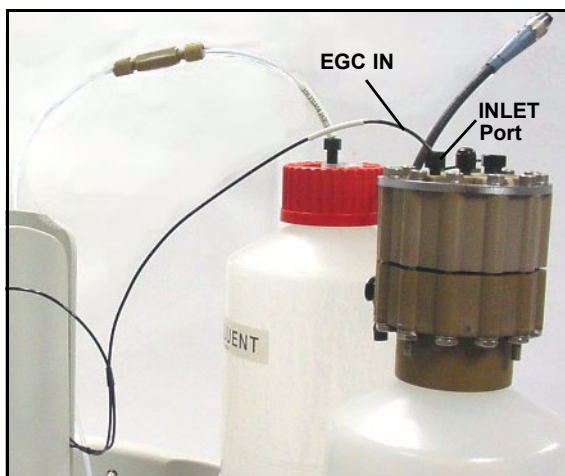

Figure 37. Connecting the EGC Inlet Port
4. Pull the coiled black **EGC IN** and **EGC OUT** lines out slightly from the cartridge holder. Disconnect the **EGC IN** line from the union that connects it to the **EGC OUT** line. Connect **EGC IN** to the EGC **INLET** port (see Figure 37).